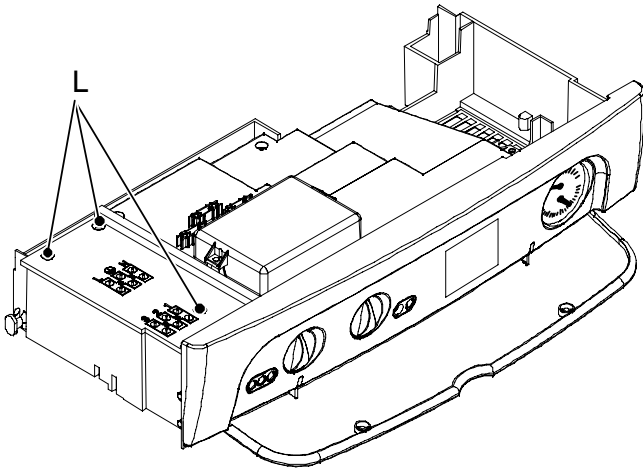

Fig. 6.12
- 5 Loosen the screws L and remove the service panel (Fig. 6.12).